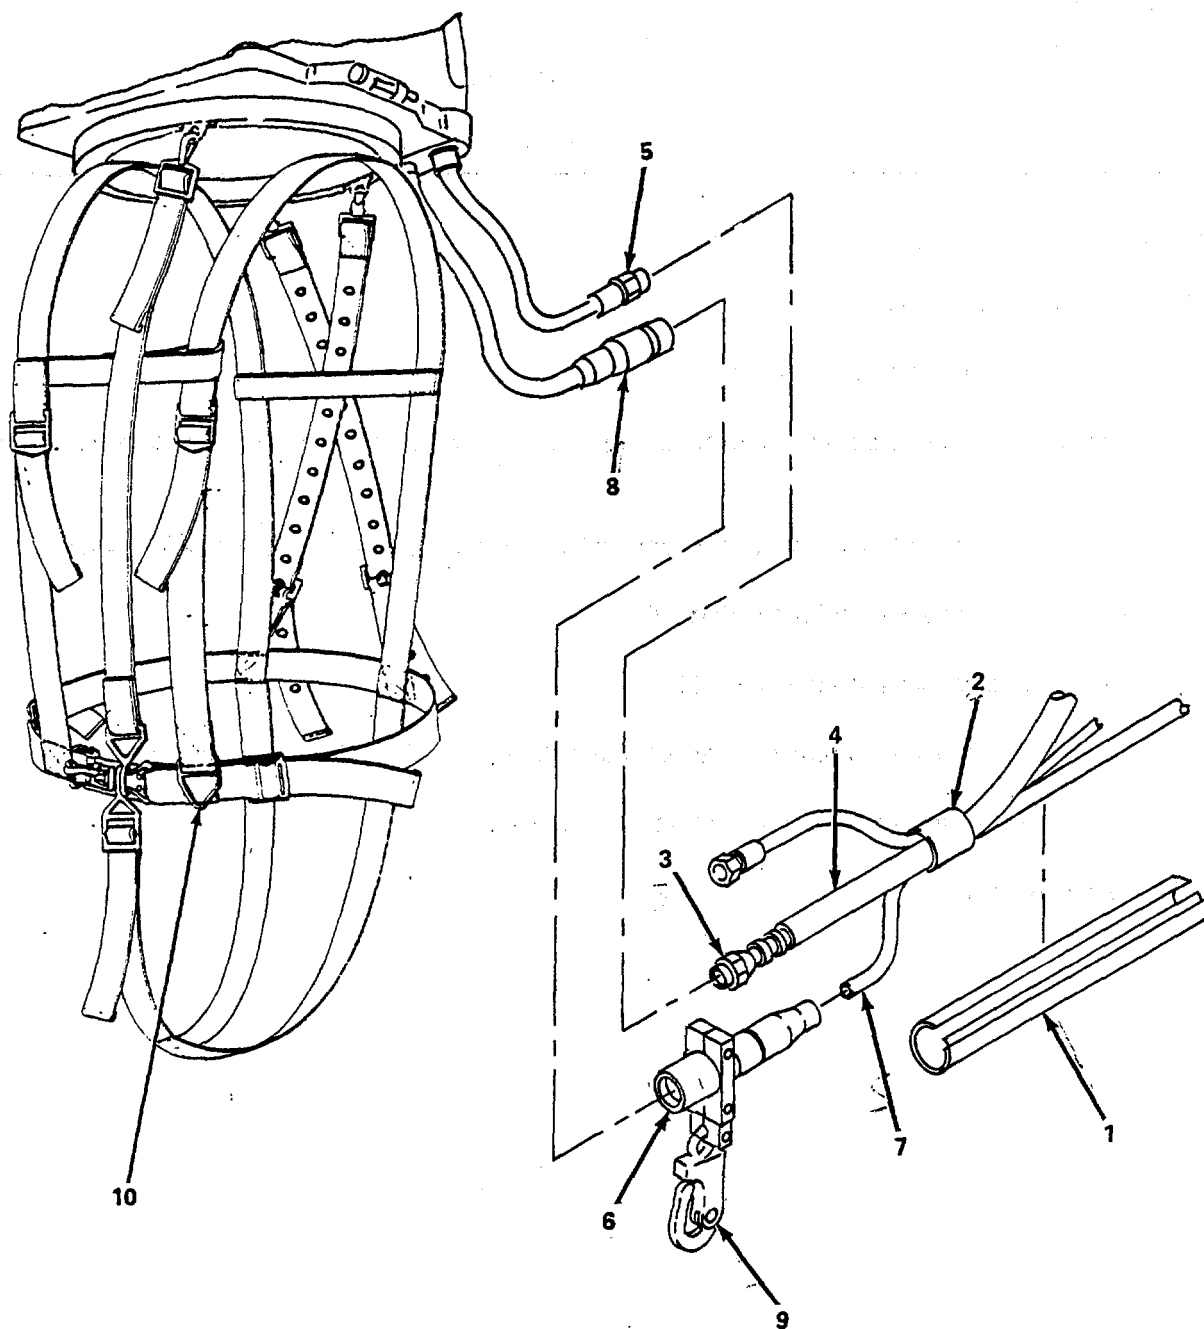

Figure 4-35. Diver End Umbilical, Replace.
(1) Diver end. (figure 4-35).
- (a) Remove boot (1) from umbilical (2).
- (b) Loosen connector nuts (3) and disconnect air hose (4) and communications cable(5) from air supply whip (5).
- (c) Loosen connector (6) and disconnect communications cable (7) from communications whip (8).
- (d) Remove snap shackle (9) from D-ring (10).
- (e) Connect snap shackle (9) to D-ring (10).
- (f) Connect communications cable (7) to communications whip (8) and tighten connector (6).
- (g) Connect air hose (4) to air whip (5) and tighten connector (3).
- (h) Install boot (1).